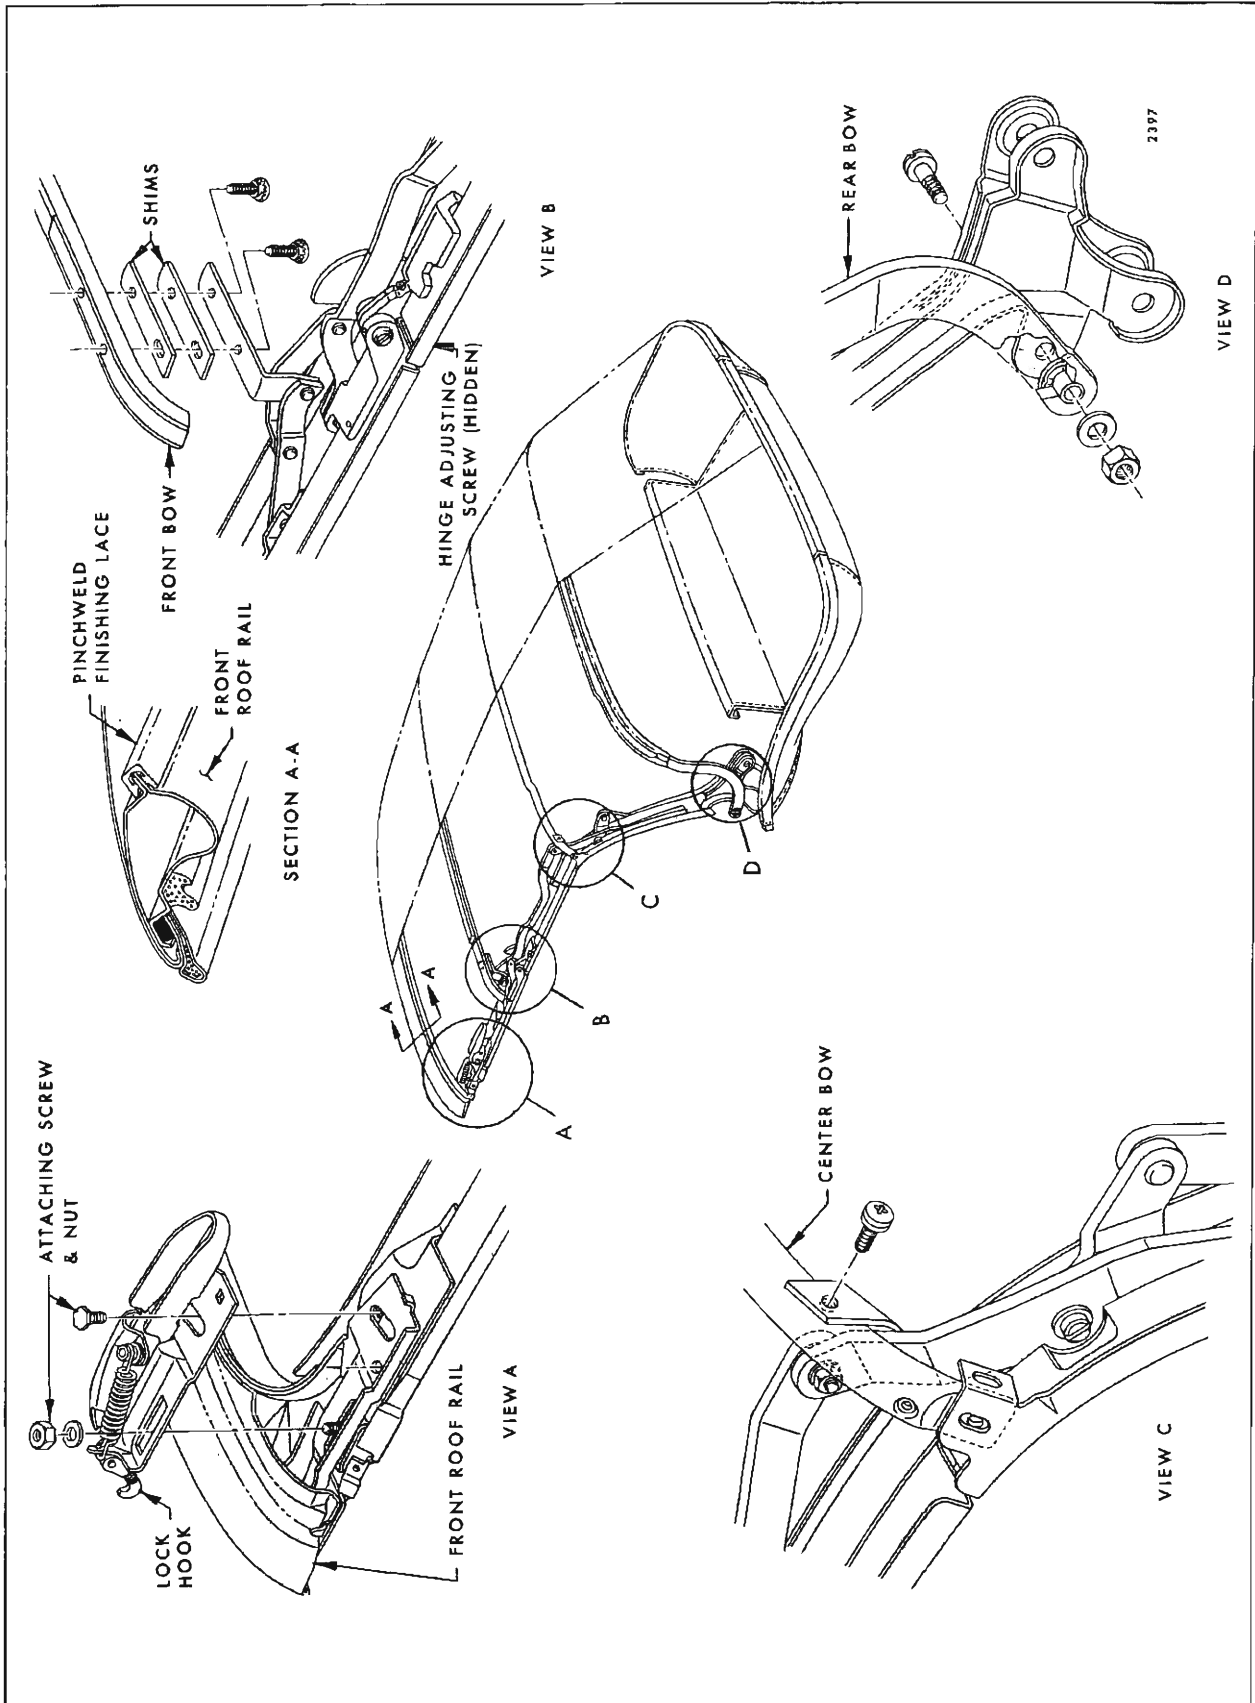

Fig. 13-84—Folding Top Adjustments - "F" Styles
rail and adjust front roof rail fore or aft as required (See View "A", Fig. 13-84).
2. With top in a half-lowered position, remove lock attaching screws; then remove lock assembly from front roof rail (See View "A", Fig. 13-84).